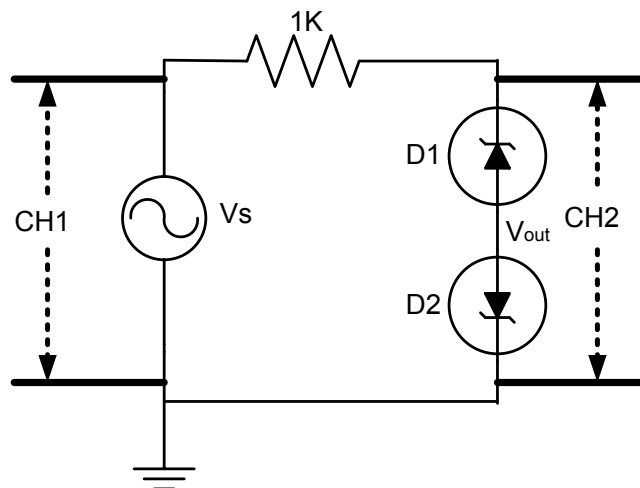

Figure 3
3. For the limiter circuit of Figure 3. Sketch the output for 5 KHz input sine wave with 10V (peak) amplitude. Does the output shape change if the input amplitude is decreased to 5V (peak)?
5. Connect the circuit of Figure 3 with similar ($V_z=3.8V$) zener diodes. Apply a 5 KHz sine wave with 10V (peak) amplitude. Sketch the output and transfer function as observed on the oscilloscope and label the important points. Vary the input amplitude and notice the effect on the output. What is the function of this circuit?